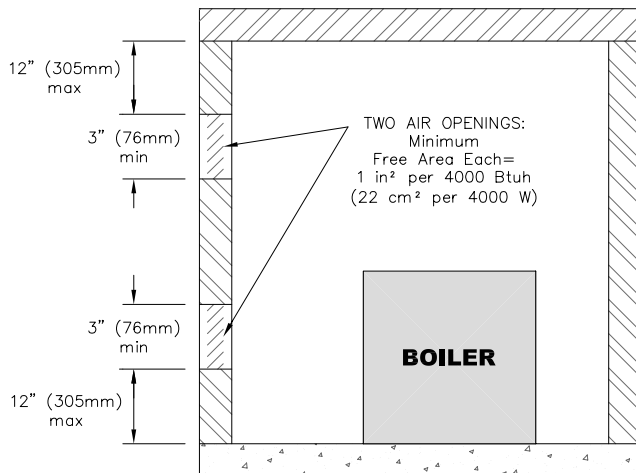
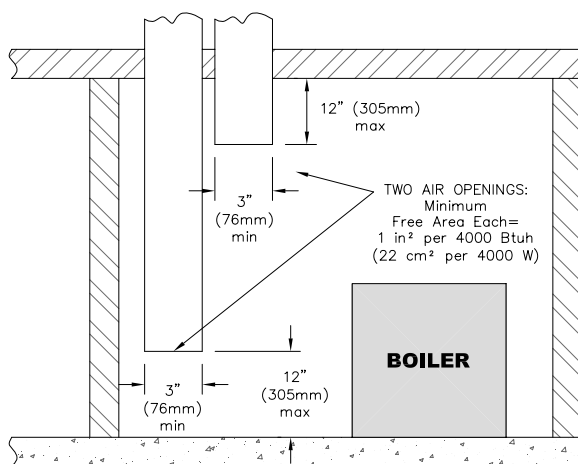

Figure 1.5: Air Openings – All Air Directly from Outdoors
Figure 1.6: Air Openings – All Air from Outdoors through Vertical Ducts
i. Where communicating directly or through vertical ducts with the outdoors each opening shall have a minimum free area of 1 in2 per 4000 Btu/hr (22 cm2 per 4000 W) of total input rating for all equipment in the space. See Figure 1.5 for openings directly communicating with the outdoors or Figure 1.6 for openings connected by ducts to the outdoors.